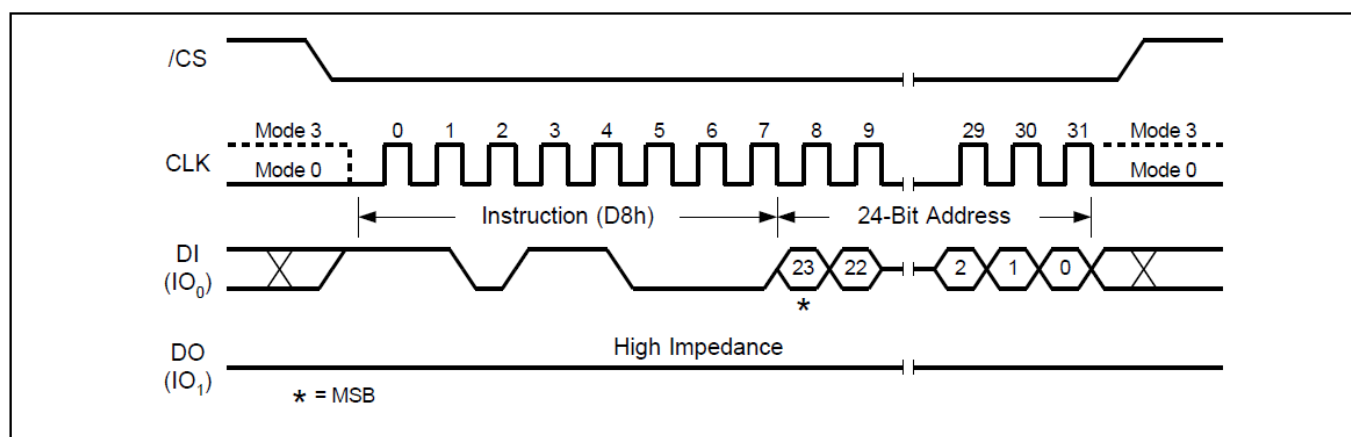

Figure18. 64KB Block Erase Sequence Diagram
The 64KB Block Erase command sequence: CS# goes low → sending 32KB Block Erase command → 3-byte address on DI → CS# goes high. The command sequence is shown in Figure 18. CS# must be driven high after the eighth bit of the last address byte has been latched in; otherwise the 64KB Block Erase (BE) command is not executed. As soon as CS# is driven high, the self-timed Block Erase cycle (whose duration is tSE) is initiated. While the Block Erase cycle is in progress, the Status Register may be read to check the value of the Write in Progress (BUSY) bit. The Write in Progress (BUSY) bit is 1 during the self-timed Block Erase cycle, and is 0 when it is completed. At some unspecified time before the cycle is completed, the Write Enable Latch (WEL) bit is reset. A 64KB Block Erase (BE) command applied to a block which is protected by the Block Protect (CMP, SEC, TB, BP2, BP1, and BP0) bits (see Table 1-2) is not executed.